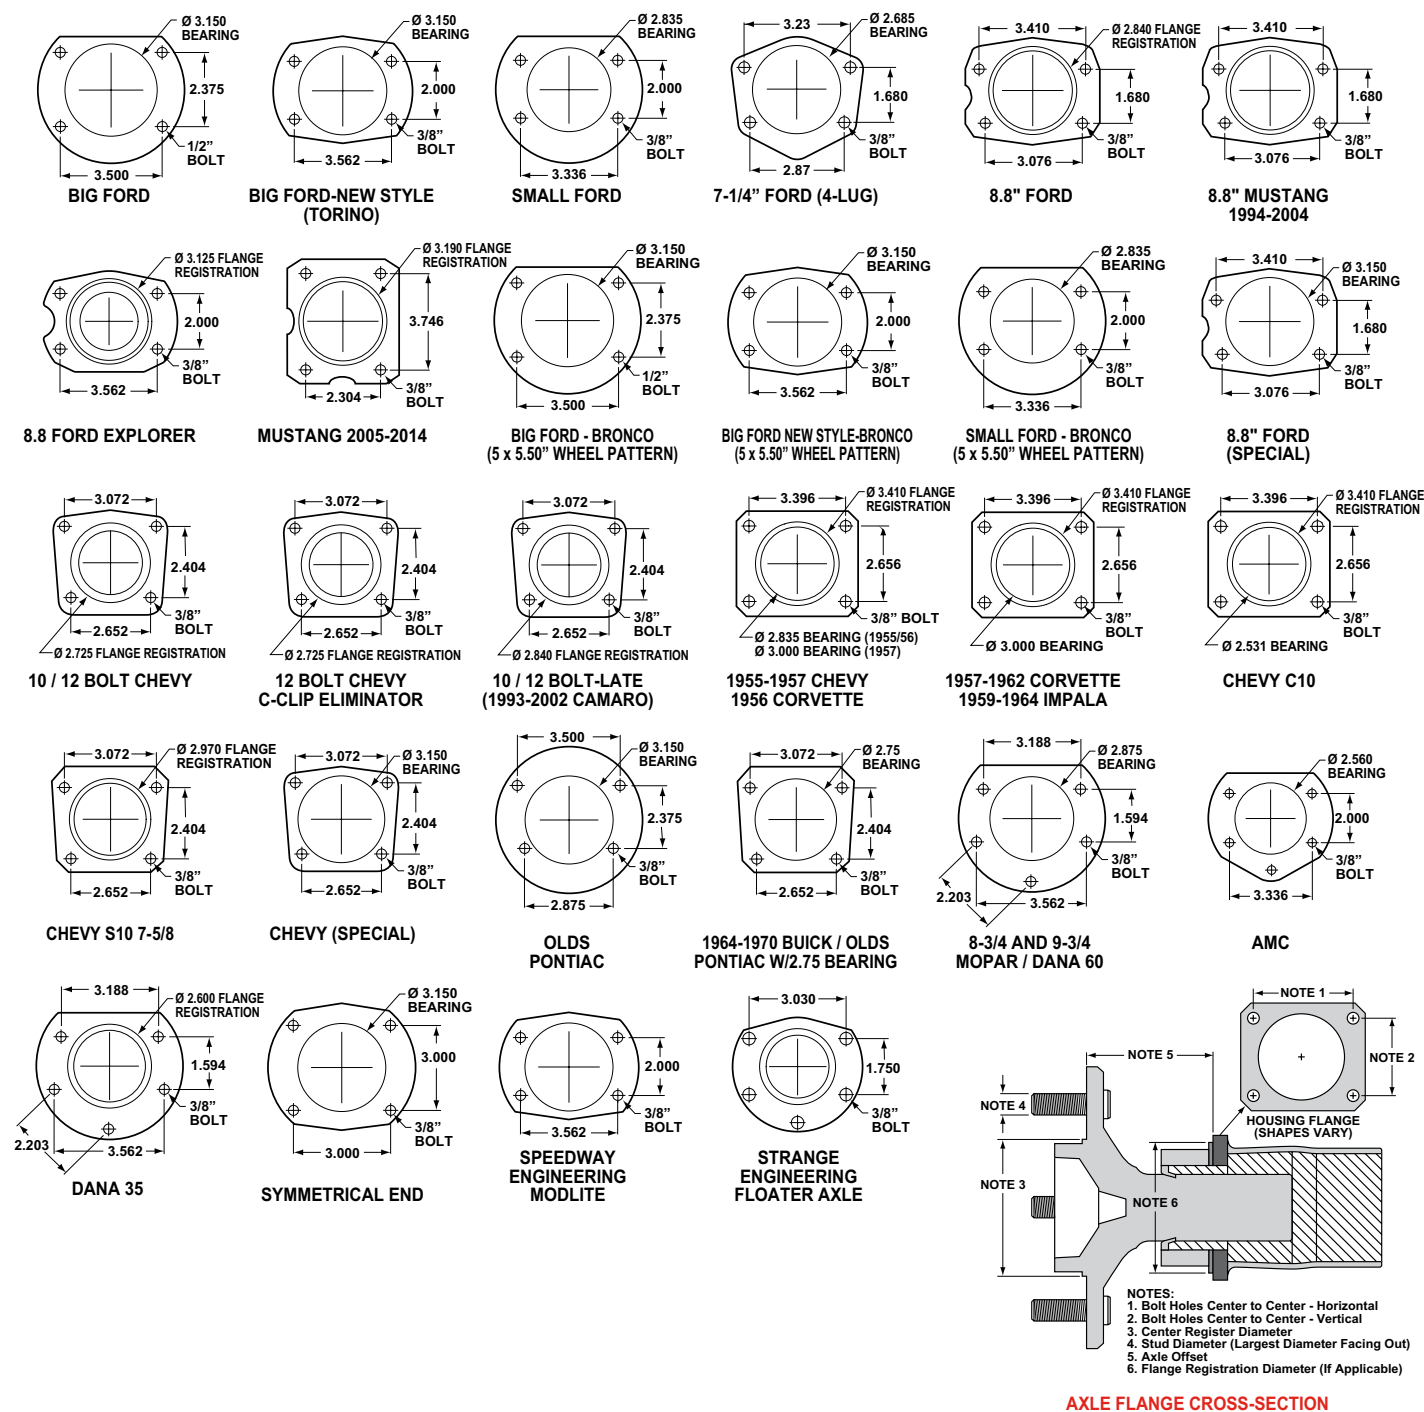

Figure 6. Rear Housing Flange Chart and Axle Flange / Offset Cross-Section
- Dimension from wheel side of axle flange to wheel side of axle housing flange (see Figure 6, lower right hand corner). This dimension is critical to ensure proper alignment of the rotor to the caliper, and should match offset given in the kit description.